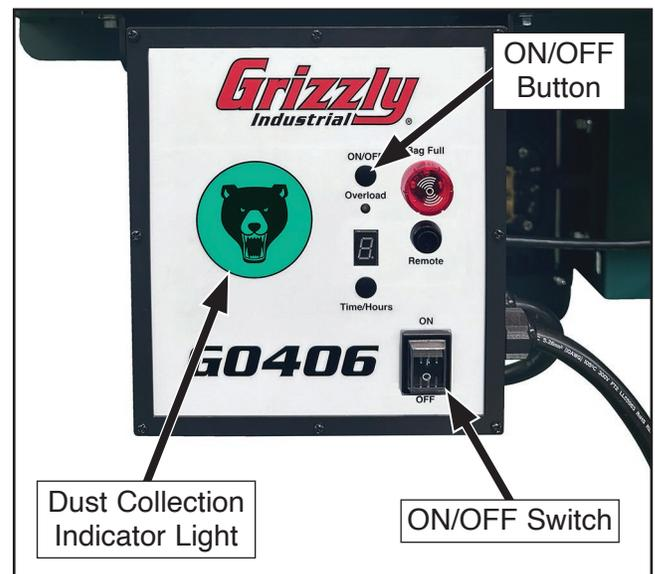

Figure 67. Location of control panel power components.
4. Move ON/OFF switch to ON position, then press ON/OFF button (see **Figure 67**) to turn motor **ON**.